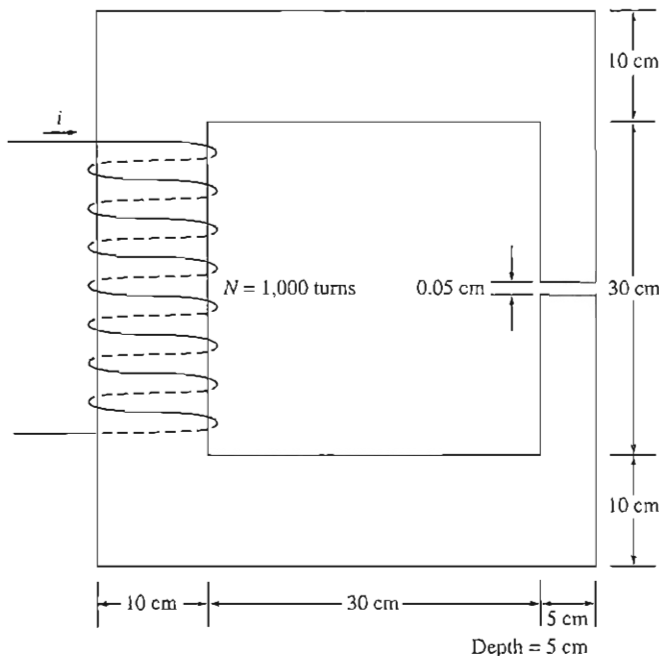

FIGURE P1-11
- 1-14.** A two-legged magnetic core with an air gap is shown in Figure P1-11. The depth of the core is 5 cm, the length of the air gap in the core is 0.05 cm, and the number of turns on the coil is 1000. The magnetization curve of the core material is shown in